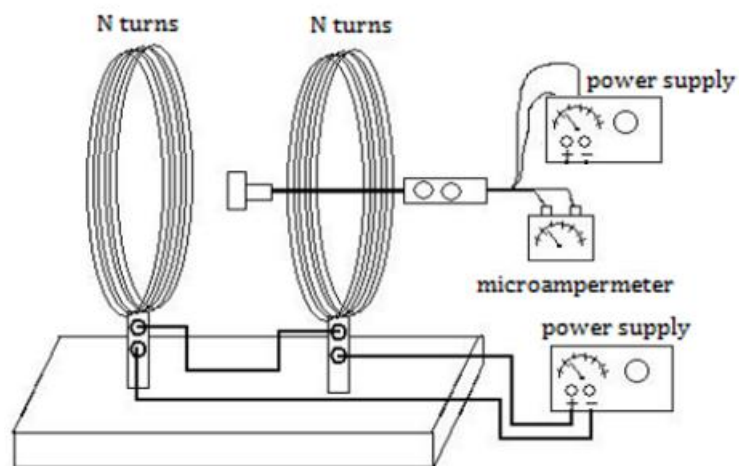

Figure 7.3 Determination of the magnetic field of Helmholtz coils
- Set up the circuit in Figure 7.3. Connect the red-black end of the Hall probe to the power supply. Connect the other two free ends to a microammeter and calibrate the Hall probe.